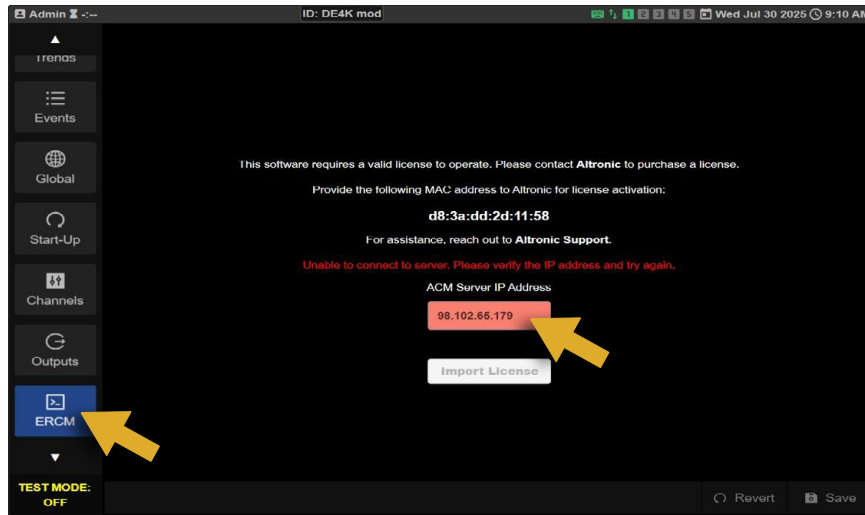

Figure 2
- If your eRCM screen looks like *Figure 2* and displays the message “Unable to connect to server. Please verify the IP address and try again”: